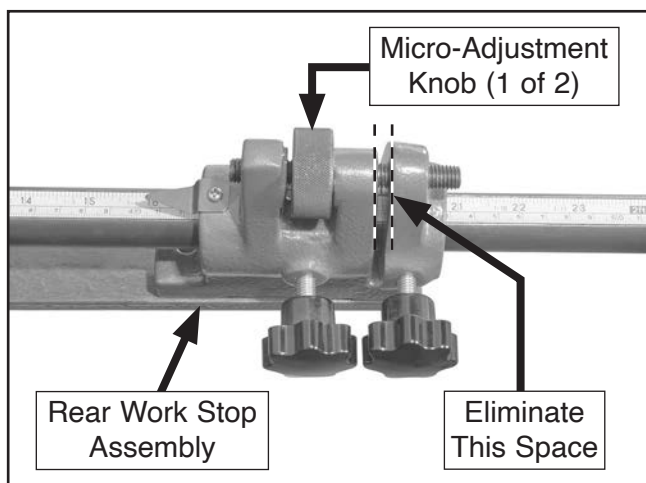

Figure 15. Rear work stop assembly installed on rear work stop support rod.
9. Install (2) rear work stop assemblies on rear work stop support rods and tighten each micro-adjustment knob completely to eliminate space shown in **Figure 15**.